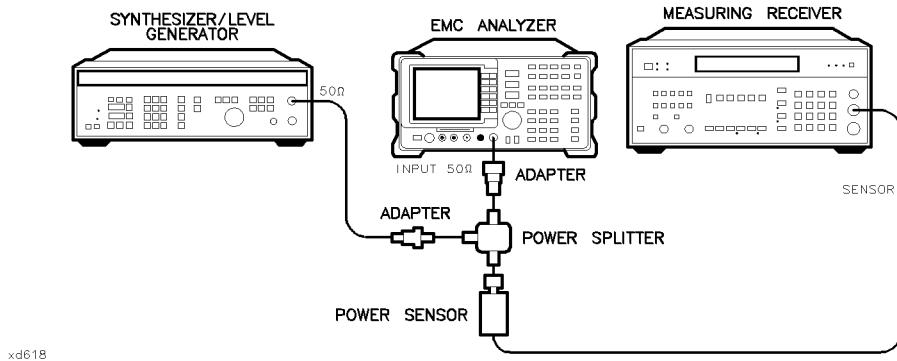

Figure 2-32. Frequency Response Test Setup, <50 MHz, HP 8596EM
34. Connect the equipment as shown if Figure 2-32, with the power sensor connected to power splitter.